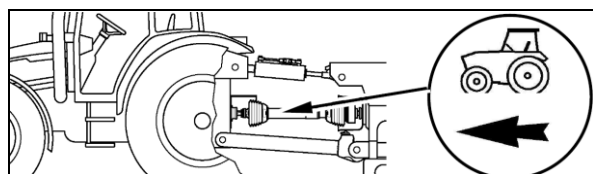

Fig. 27
4. Slip the locking mechanism of the propeller shaft half with the tractor symbol (Fig. 27) on the protective tube onto the p.t.o. shaft of the tractor until the locking mechanism noticeably engages.